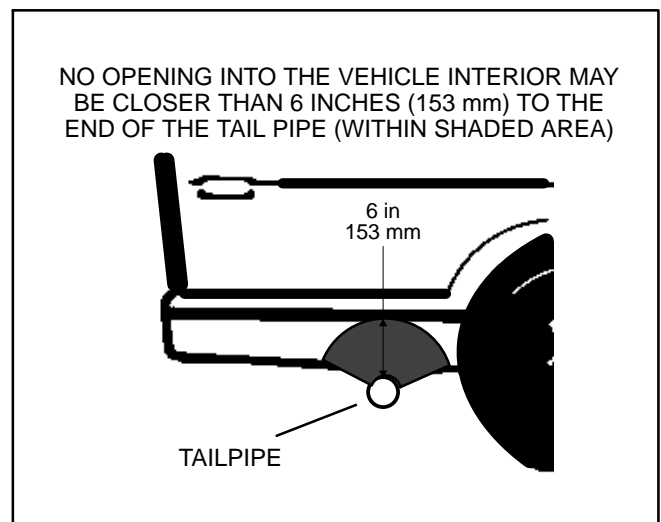
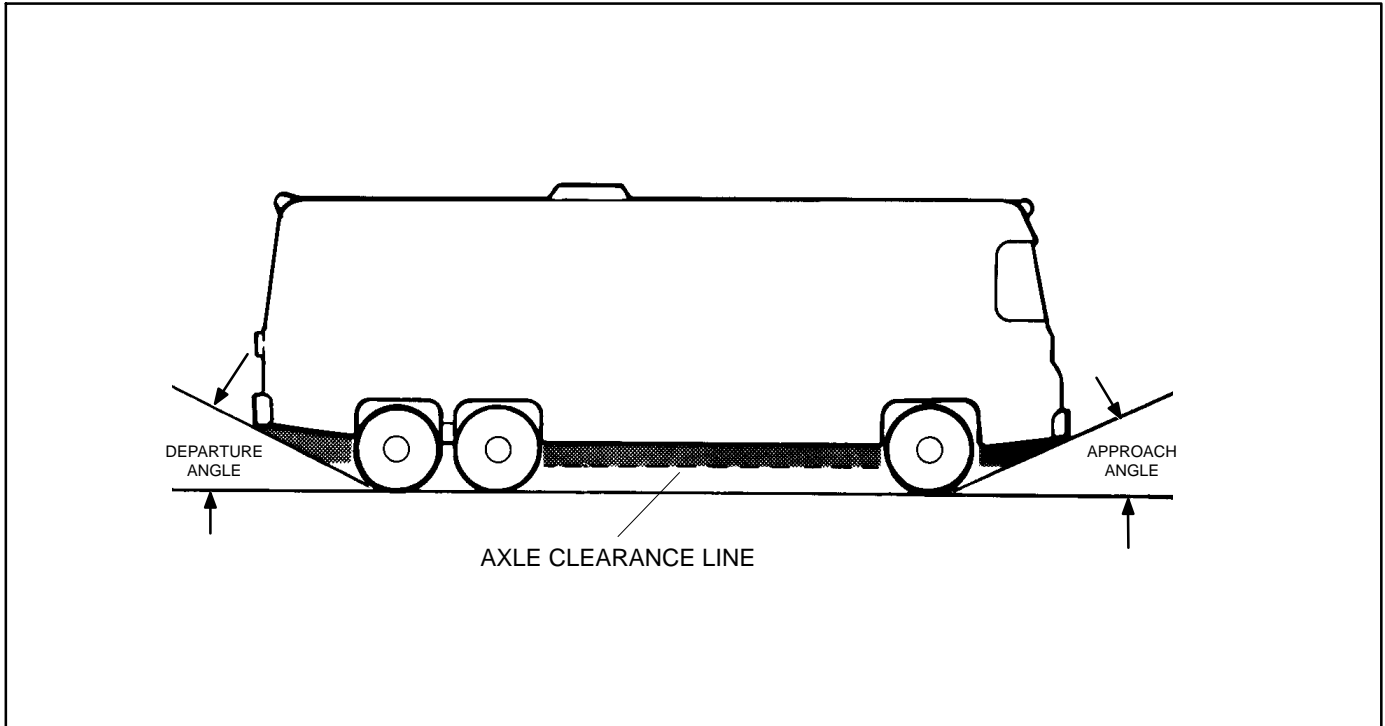

FIGURE 7. MINIMUM DISTANCES TO OPENINGS
FIGURE 8. APPROACH AND DEPARTURE ANGLES AND AXLE CLEARANCE LINE
⚠WARNING *EXHAUST GAS IS DEADLY!* To keep exhaust gases from entering the vehicle do not terminate the exhaust tailpipe underneath the vehicle or closer than specified to openings into the vehicle (Figure 7) or route it such that it is likely to be damaged (Figure 8). Use approved materials and parts only.
9. Do not terminate the tailpipe such that it is closer than 6 inches (153 mm) to any opening into the vehicle interior (door, window, vent). See Figure 7.
angles of the vehicle and above the axle clearance line (Figure 8).